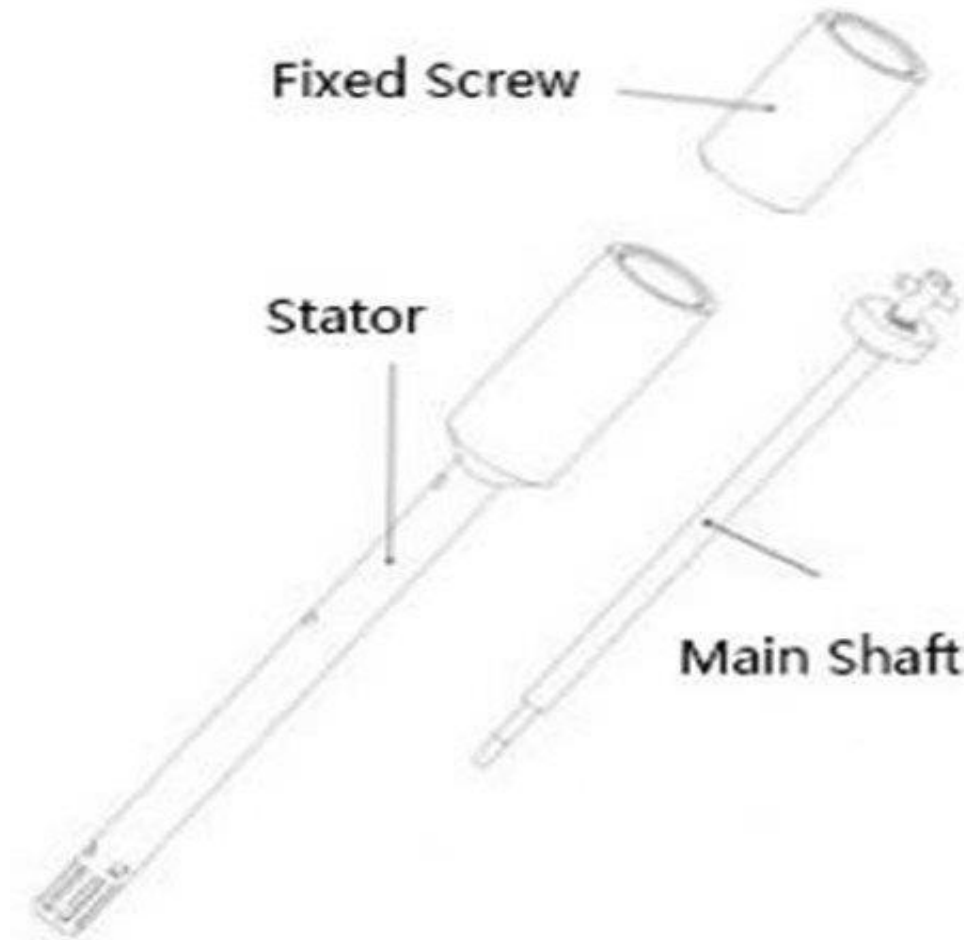

Fig. 03
- Refer to **(Fig.03)** to do the disassembly and assembly